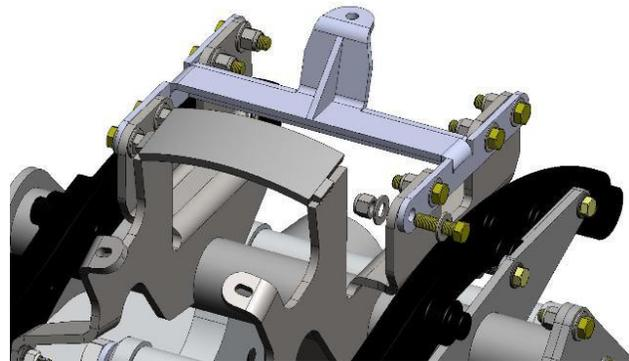

Figure 27
- a. Install Seat Rear Mount Bracket using the supplied hardware. **Figure 27**